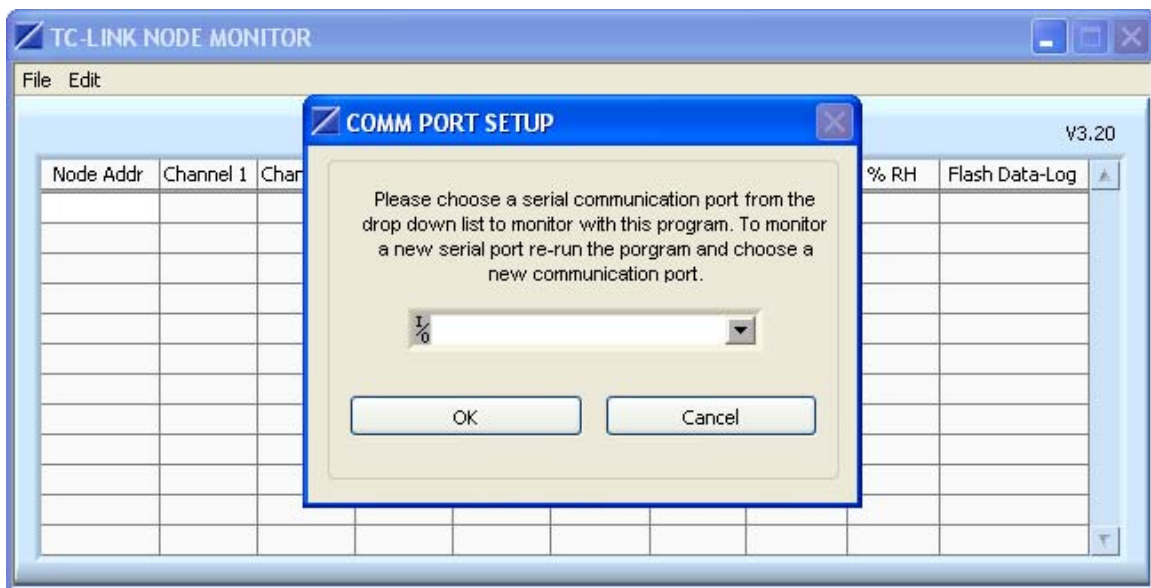

Figure 2
- The Comm Port Setup screen will appear. See Figure 2.